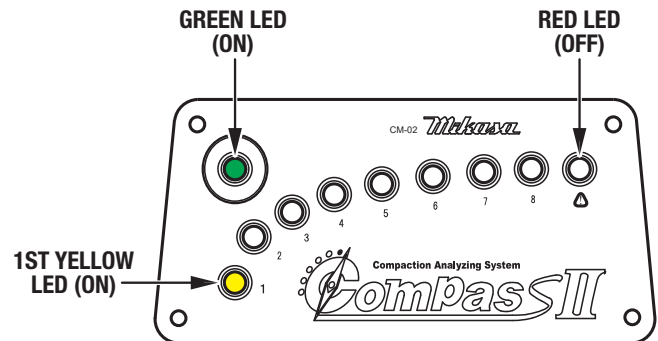

Figure 64. Sensor Panel Display (Beginning Compaction)
- As engine speed increases and compaction begins, the green LED will stop flashing and turn on (Figure 64). The red LED will turn off, and the first yellow LED (on the left) will turn on.